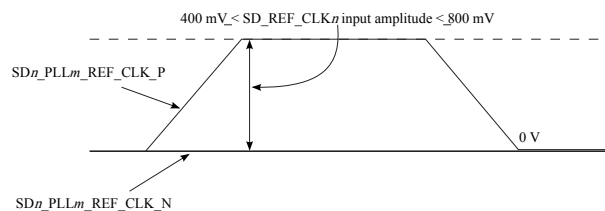

Figure 49. Single-ended reference clock input DC requirements
- The SDn_PLLm_REF_CLK_P input average voltage must be between 200 and 400 mV. Figure 49 shows the SerDes reference clock input requirement for single-ended signaling mode.